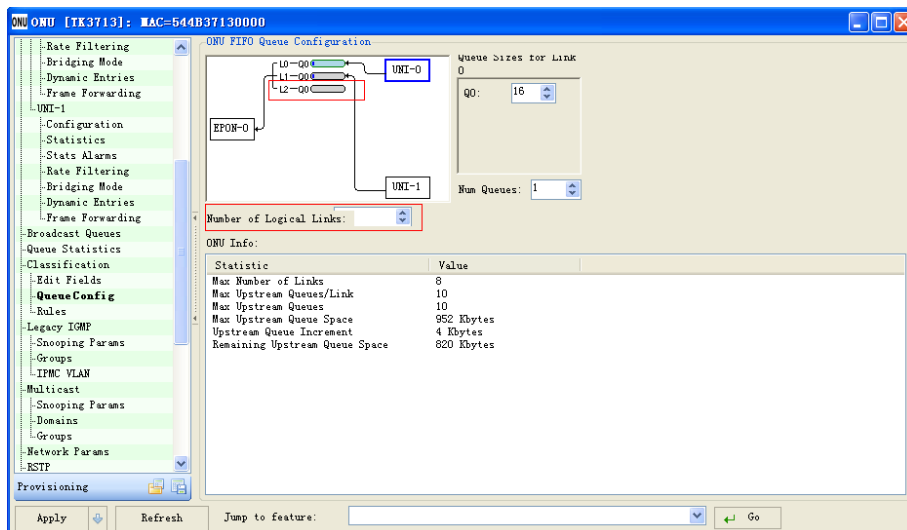

Figure 8-10 Add Links
- 2) In the option of Number of Logical Links, select the number of links to be added with the arrow buttons (the maximum link is 8): for example, add a link L2 and fill in 3 for the number of links, the structural chart on the top of window will display the links to be added shown in the Figure 8-10;